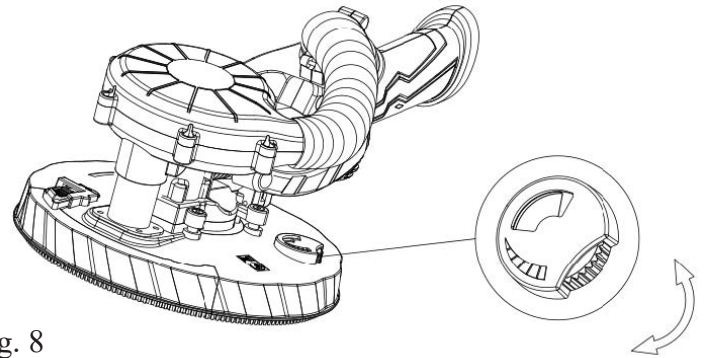

fig. 8
11. Suction power adjustment (figure 8).